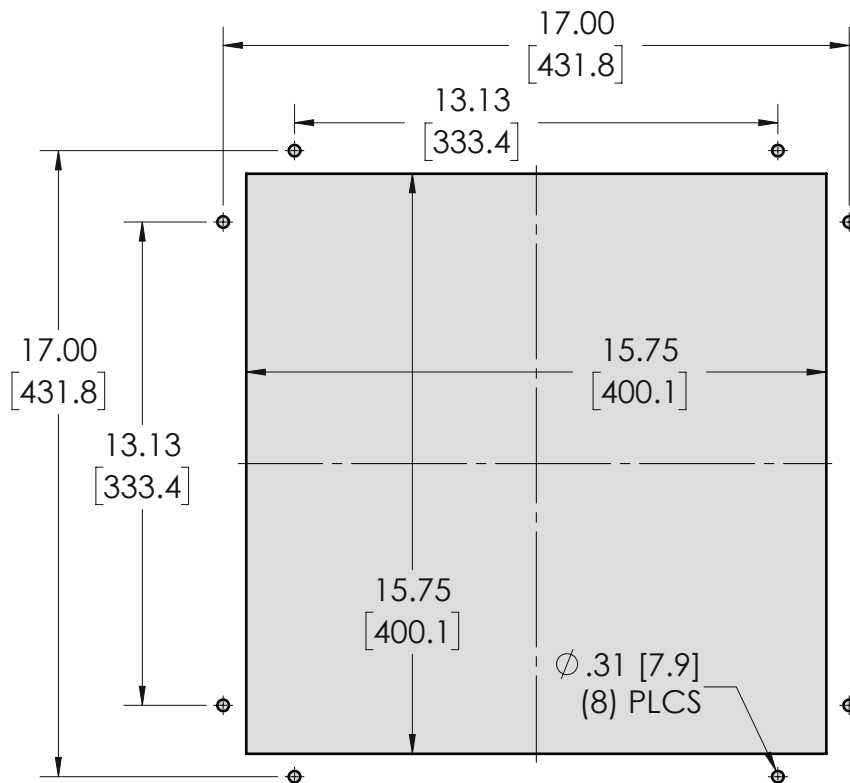

Fig. 1
1. Verify paint booth panels are cutout per Fig. 1.